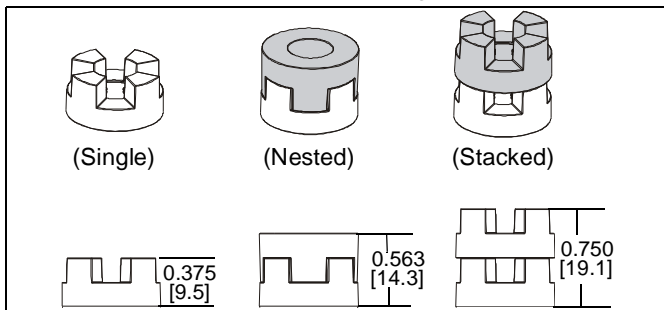

Figure 9
NOTE: The nesting spacers (M) may be used separately, or put two together in different configurations to create different size spacers. (See Figure 9)